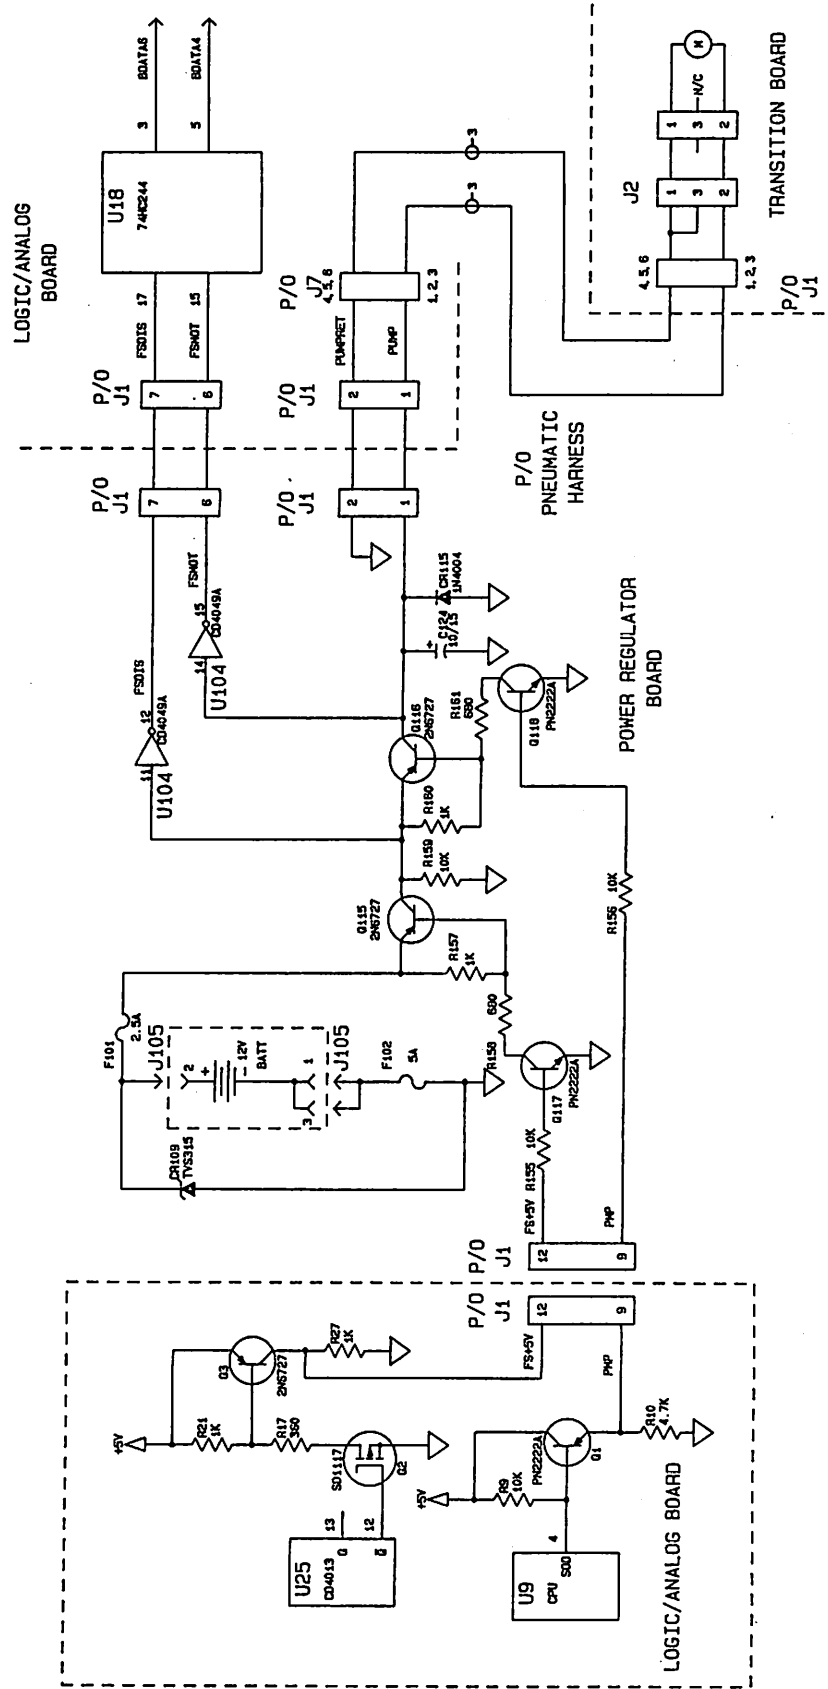

Figure 3-12. Pump Driver
3.5.3 Inflation Control (figure 3-12)